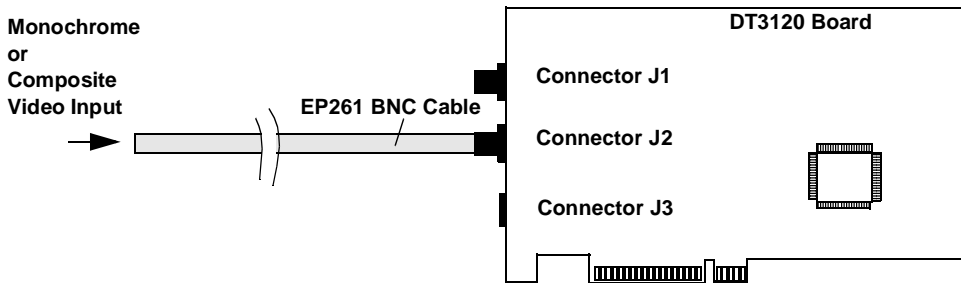

Figure 3: Connecting a Monochrome or Composite Input to the DT3120 Board
- **Monochrome or composite input** – Uses the NTSC/RS-170 or PAL/CCIR video format. Attach a monochrome or composite input to connector J2 on the DT3120 board, as shown in Figure 3.